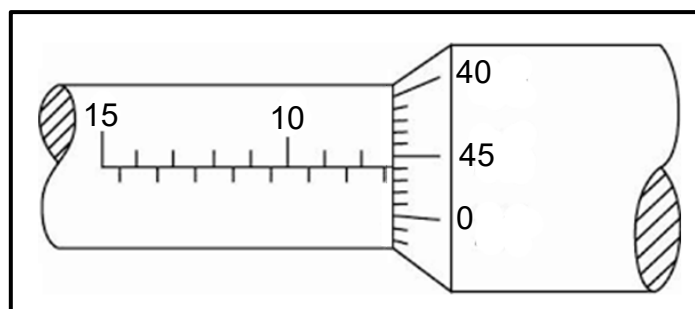

FIGURE 7.5
7.5 Determine the reading of the depth micrometer shown in FIGURE 7.5 below.